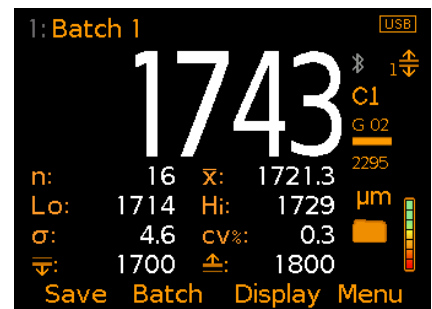

Figure 7: Selected Statistics & Readings (Model T)
- **Selected Statistics - Model T (Figure 7);** Up to 8 statistical values can be displayed as defined by the user via Display/Statistics/Select Statistics.